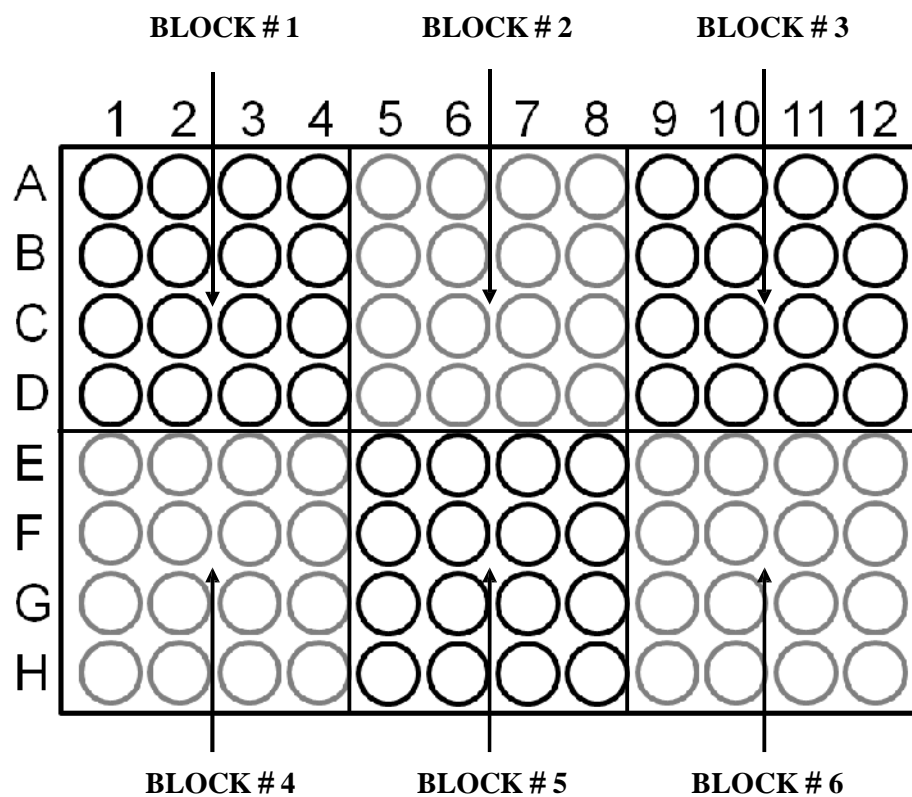

Figure 10. Block layout of 96-well model
2. The temperatures of all BLOCK offset are based on BLOCK # 1. If press F2:AUTO to set gradient temperature, each BLOCK will add 4 °C automatically based on the preceding BLOCK. Prior to press F3:AVG. users need to enter BLOCK # 6 setting, and the screen will show the calculated temperature gradient from BLOCK # 1 to BLOCK # 6 as show in Figure 10. This reflects the variation of the temperature from the BLOCK # 1 (coolest) to the BLOCK # 6 (hottest).